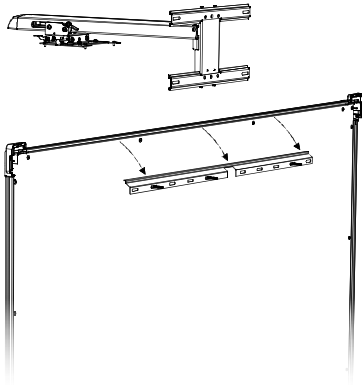

Figure 6
13. Mount screen onto wall bracket by hooking into the back groove of the screen frame (Figure 6).